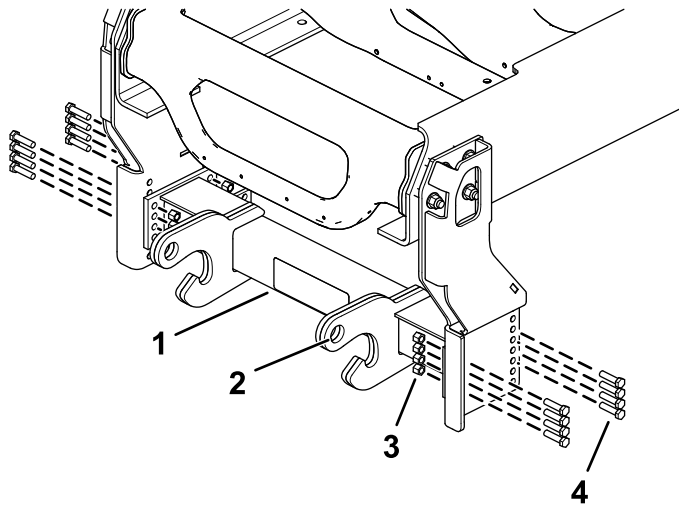

Figure 2
4. Position the pushbeam so that the distance from the ground to the center of the attachment pin holes on the pushbeam is 42 cm (16-1/2 inches) as shown in Figure 2.
5. Loosely secure the pushbeam assembly to the side plates using 16 bolts (1/2 x 2 inches) and 16 nuts (1/2 inch) as shown in Figure 2.